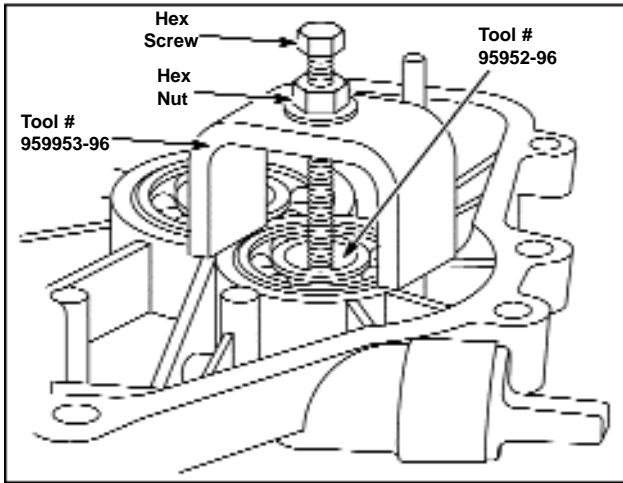

Figure 141 - Removing Ball Bearing
- While holding puller screw from turning, turn nut until ball bearing is free, Figure 141.